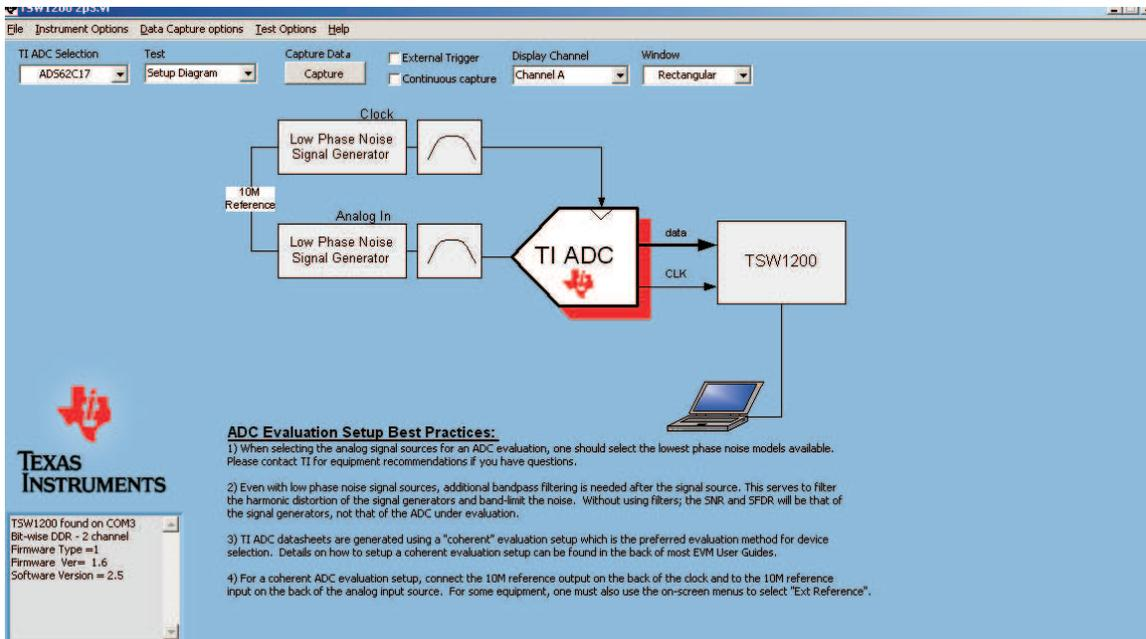

Figure 13. TSW1200 GUI
2. Load TSW1200_v2p5 or later. The TSW1200 GUI appears as shown in Figure 13.